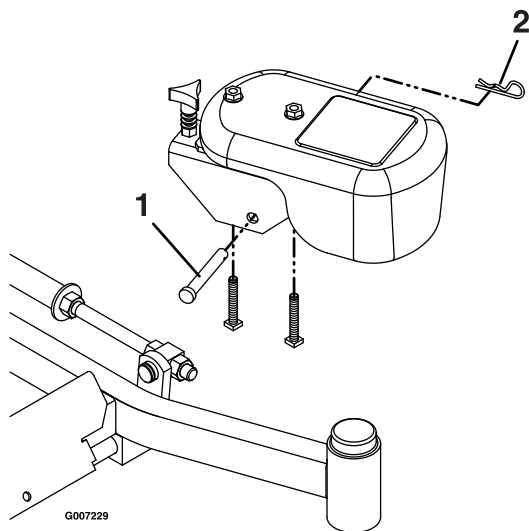

Figure 7
10. Install a clevis pin and hairpin on each caster weight to retain them (see Figure 7).